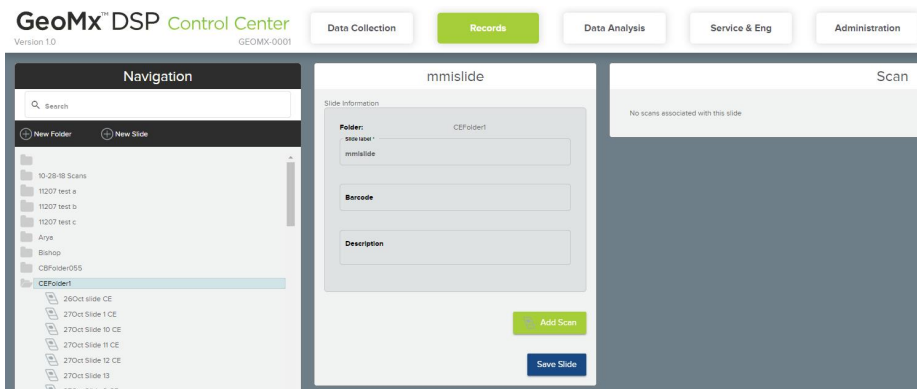

Figure 56: Slide record under Records in GeoMx DSP Control Center
1. If the selected slide record does not yet have a set of scan parameters associated with it, the Scan Card will simply read, "No scans associated with this slide" (see Figure 56). To associate scan parameters with this slide record, click the **Add Scan** button in the **Slide Record** window.